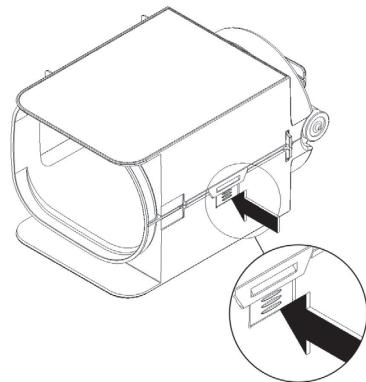

figure 5
- 1 Click open the two parts. (see figure 5).